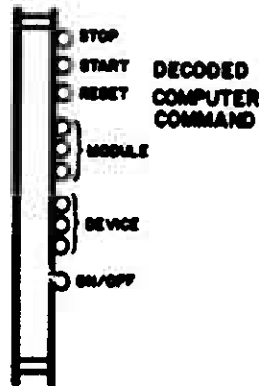

Figure 2-6. SCD-100 SERIAL CHASSIS DECODER
2.2.4.2 SCD-100 Serial Chassis Decoder - This card receives RS-232 commands, interprets them and sends control signals down the motherboard to video selector cards. In the ATR system these commands select which videodisc player signal to display. The SCD-100 uses a vertical sync input for timing so that the video switching takes place between frames of video. This prevents the picture tear which would occur if the video were switched in the middle of a frame. The LEDs on the front provide a readout of the stop bit, start bit and the eight bits which make up a command word (Figure 2-6).